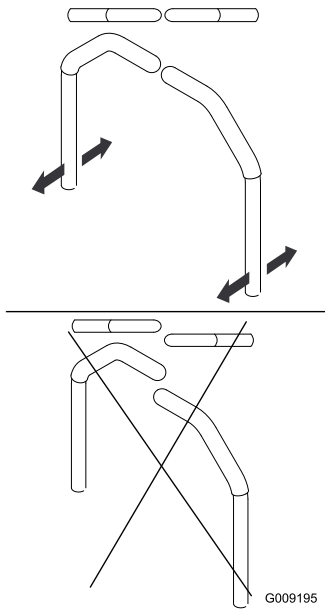

Figure 80
4. Align the levers front-to-rear position by bring the levers together to the NEUTRAL position and slide them until they are aligned, then tighten the bolts (Figure 80).